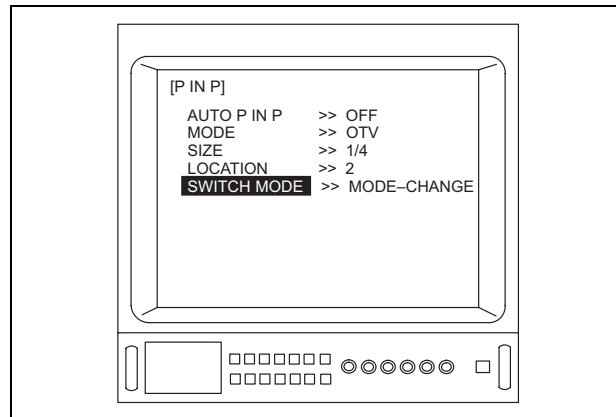

Figure 5.117
7. Depress the menu switch "↵" or the "Enter" key on the keyboard to adjust the "SWITCH MODE" (see Figure 5.117).